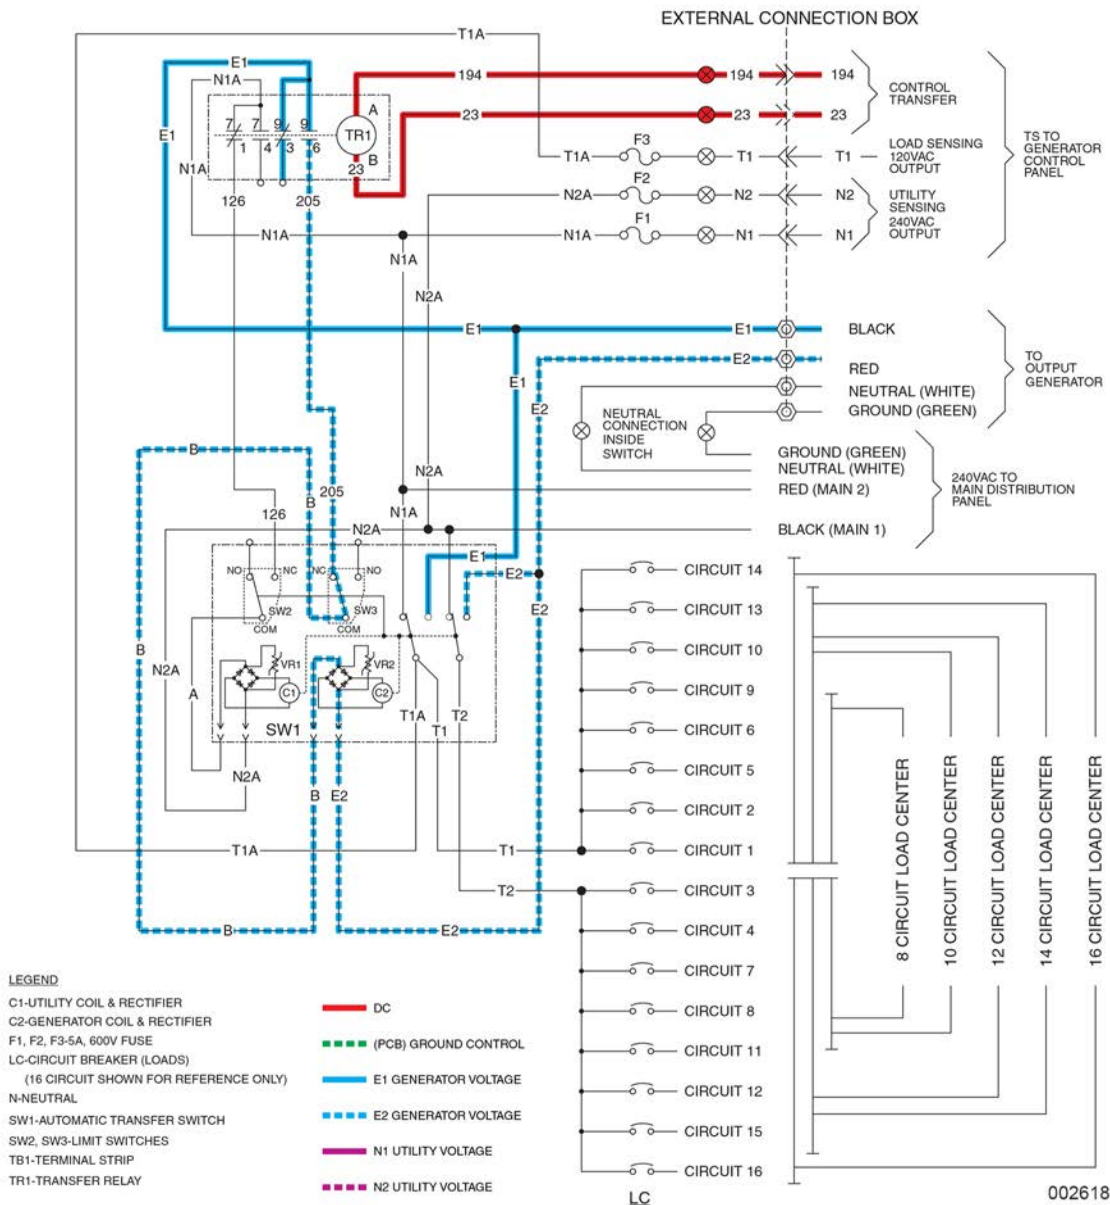

Figure 3-36. Utility Source Voltage Failure
If Utility source voltage drops below 65% of nominal voltage for ten seconds, the controller will initiate engine start. After the generator starts a five (5) second engine warm-up timer is initiated. During this warm-up the generator is running at rated frequency and voltage. **Figure 3-36** is a schematic representation of the transfer switch with the Generator running with voltage available to the transfer switch.